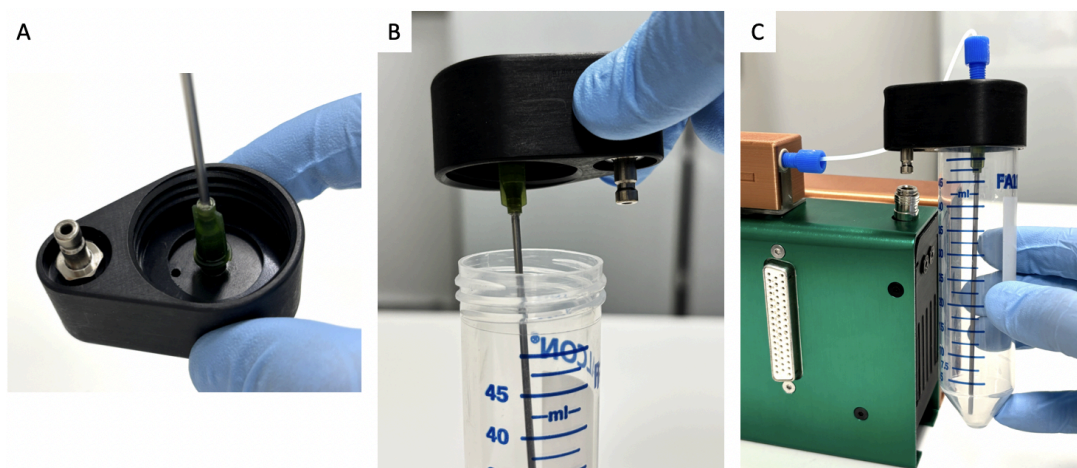

Figure 2. A. Needle connected to base of cap. B. Screw cap to reservoir.
C. Assemble the 10cm 1/16" PTFE tubing with the 1/4-28 threaded connector and the two conical ferules (see Figures 2 and 3 for reference), and connect it on the cap and on the flow sensor. Then, connect the quick connect cap to the pump module. You should hear a click once a connection has been made. If you have difficulty taking off the cap, see section tips and tricks.